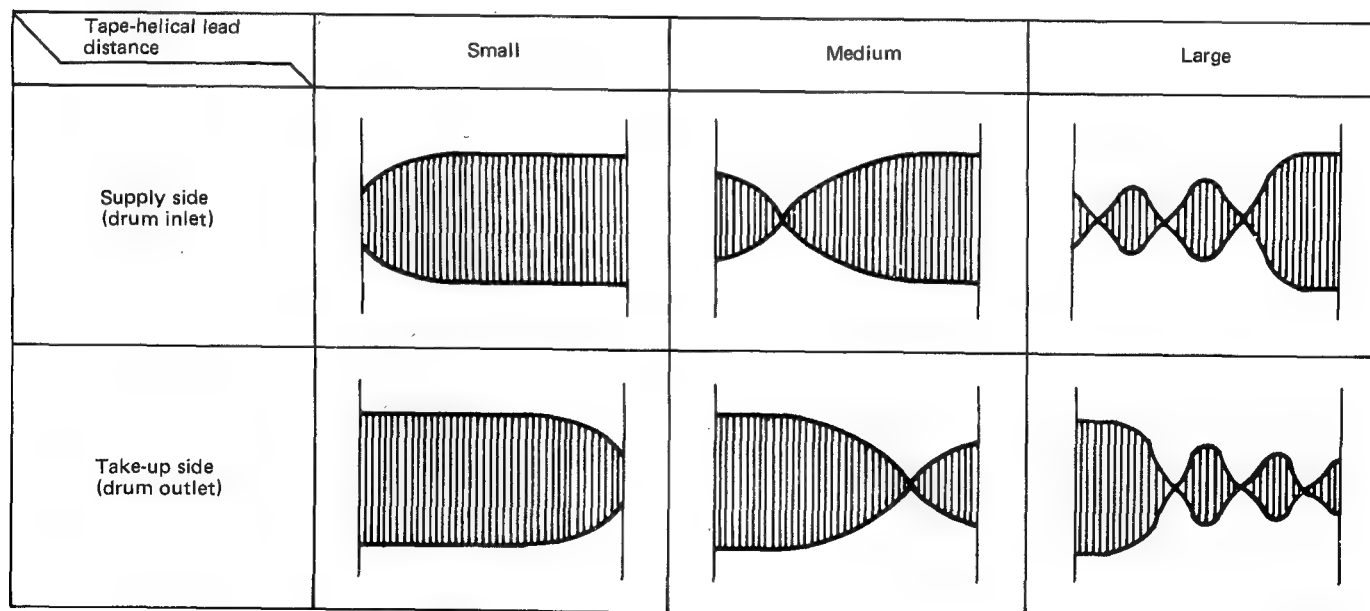

Figure 7-28.
- 3) Looking at the envelope, adjust guide roller height so that the tape runs along the drum lead. The envelope waveform will appear as shown in Figures 7-28 or 7-29 if the video tape runs above or below the helical lead position.